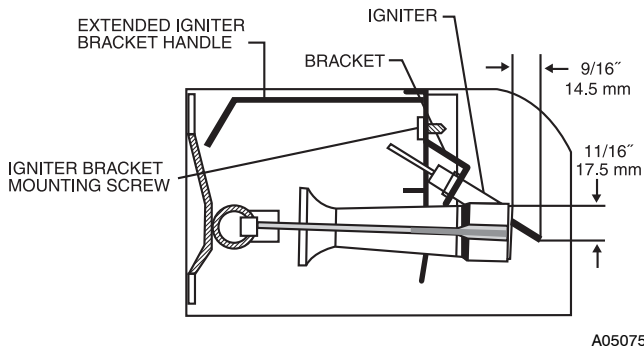

Fig. 13 - Igniter Bracket
- c. Using a 1/4 in. driver, remove the single screw securing the igniter bracket to the burner box bracket (See Fig. 13.) and carefully withdraw the igniter and bracket assembly through the front of the burner box without striking the igniter on surrounding parts. Note that the igniter bracket has a handle that extends to the front of the burner box to aid in handling (See Fig. 13.).